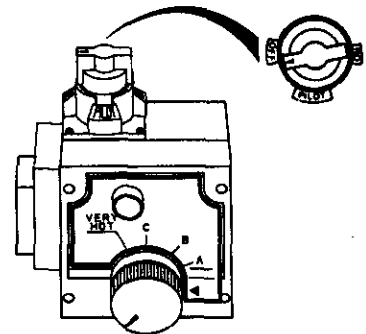
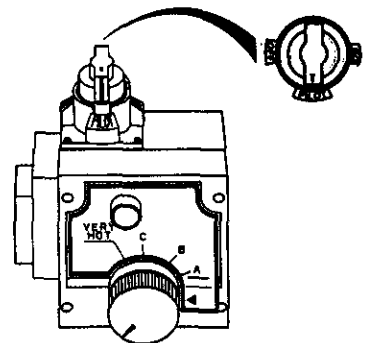
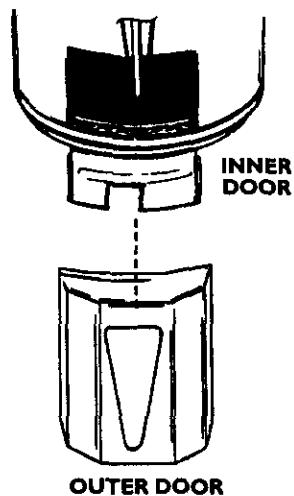

Figure 10
Figure 11
Figure 13
4. Turn gas control knob clockwise (↻) to "OFF" position. Knob cannot be turned from "PILOT" to "OFF" unless knob is depressed slightly. **DO NOT FORCE.** (Figure 10, page 18)
5. Wait five (5) minutes to clear out any gas. If you then smell gas, STOP! Follow "B" in the safety information above on this label. If you don't smell gas, go to the next step.
6. Remove (or open) inner door located below the gas control unit. (Figure 13, page 18)
8. If you don't smell gas, turn knob on gas control counter clockwise (↺) to "PILOT" position. (Figure 11, page 18)
9. Push in control knob all the way and hold down. Immediately light the pilot with a match. Continue to hold control knob in for about one (1) minute after the pilot is lit. Release knob and it will pop back up. Pilot should remain lit. If it goes out, repeat steps 3 through 8.
- If the pilot will not stay lit after several tries, depress and turn the gas control knob clockwise (↻) to "OFF" and call your service technician or gas supplier. (Figure 10, page 18)
10. Replace (or close) inner door. Replace outer door if door does not cover gas control on/off knob or temperature adjustment knob. (Figure 13, page 18)
2. Turn gas control knob clockwise (↻) to "OFF" position. Knob cannot be turned from "PILOT" to "OFF" unless knob is depressed slightly. **DO NOT FORCE.** (Figure 10, page 18)